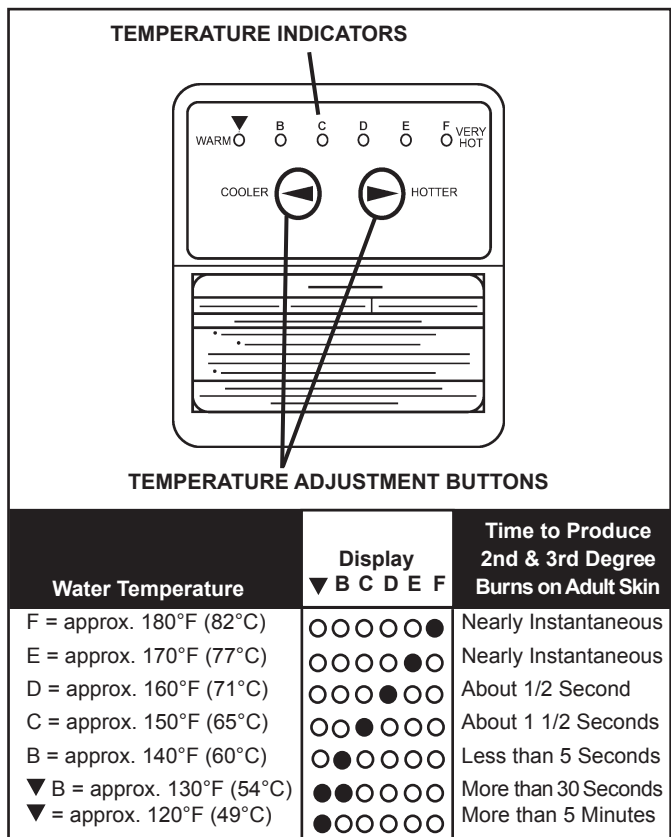

FIGURE 26.
HOT WATER CAN SCALD: Water heaters are intended to produce hot water. Water heated to a temperature which will satisfy space heating, clothes washing, dish washing, and other sanitizing needs can scald and permanently injure you upon contact. Some people are more likely to be permanently injured by hot water than others. These include the elderly, children, the infirm, or physically/mentally handicapped. If anyone using hot water from this heater fits into one of these groups or if there is a local code or state law requiring a certain temperature water at the hot water tap, then you must take special precautions. In addition to using the lowest possible temperature setting that satisfies your hot water needs, a means such as a mixing valve, shall be used at the hot water taps used by these people or at the water heater. Mixing valves are available at plumbing supply or hardware stores, see Figure 2. Follow manufacturer's instructions for installation of the valves. Before changing the factory setting on the thermostat, in this manual, see Figure 26.
1. "Wake Up" the temperature indicators by holding down both "COOLER" and "HOTTER" temperature adjustment buttons at the same time for one second, see Figure 26. One or two of the temperature indicators will light up. These indicators will only remain on for 30 seconds if no further buttons are pressed. After 30 seconds the control will go back to "Sleep" mode.